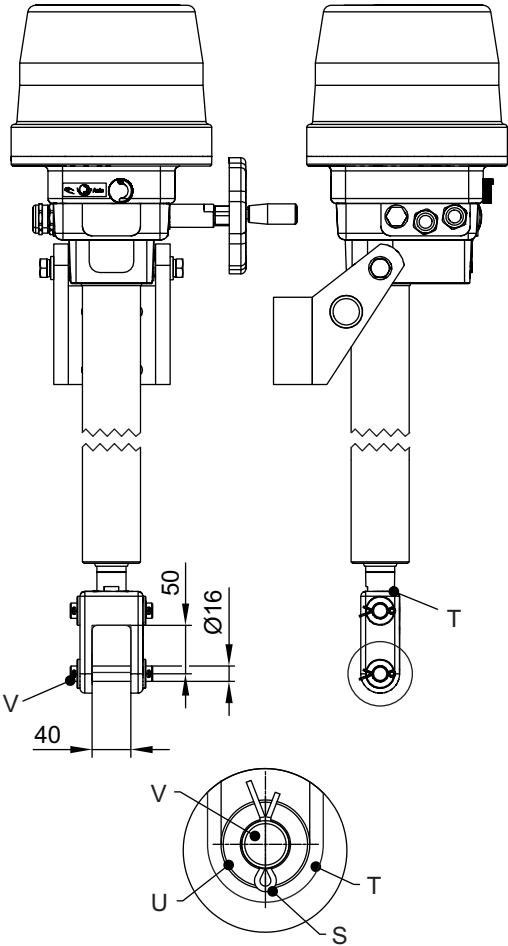

Fig. 5.7: Series NEx-KA – assembly
1. Install the actuator using mounting bracket B at the prescribed position (see: Fig. 5.5 “Series NEx-K – assembly” or Fig. 5.7 “Series NEx-KA – assembly”).